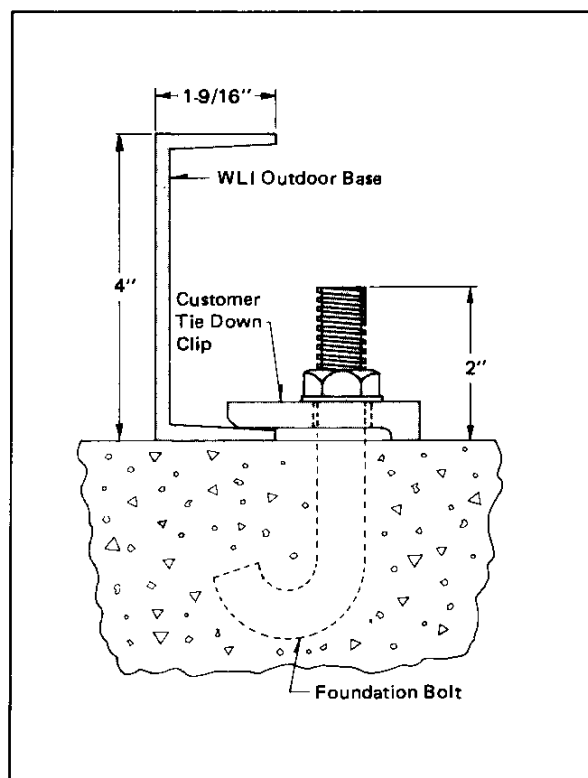

Fig. 7 Bolting WLI Unit to Foundation
3.7.2 Outdoor units are secured using tie down clips and foundation bolts as shown in Fig. 7. Lead anchors and lag screws may be used in place of J-bolts if desired. An alternate method is to tack weld base to floor sills.